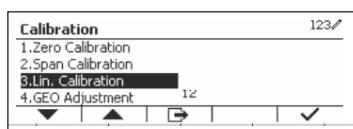

Figure 13
7. Exit Span Calibration by pressing the softkey corresponding to the ✓ icon. (See Figure 13)